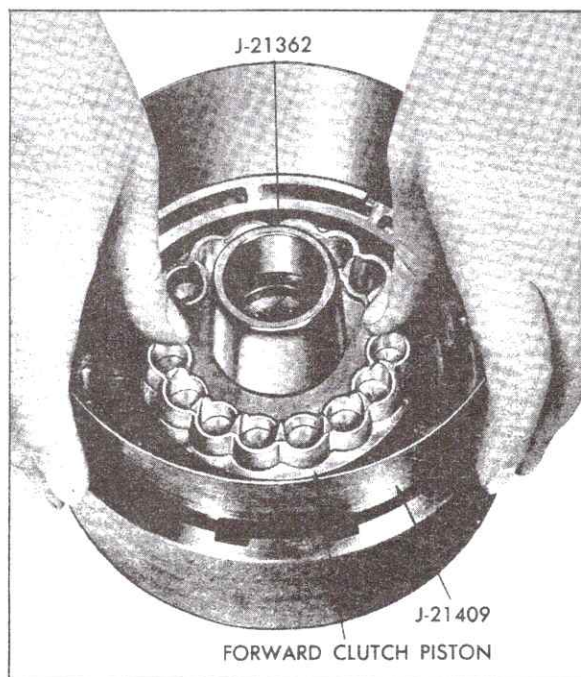

Fig. 7-65 Installing Forward Clutch Piston
5. Place Forward and Direct Clutch Inner Seal Protector, J-21362, over forward clutch hub. Install clutch piston inside Forward and Direct Clutch Piston Installer, J-21409, insert assembly in forward clutch housing, Fig. 7-65, and install clutch piston by rotating it slightly in a clockwise direction until seated.